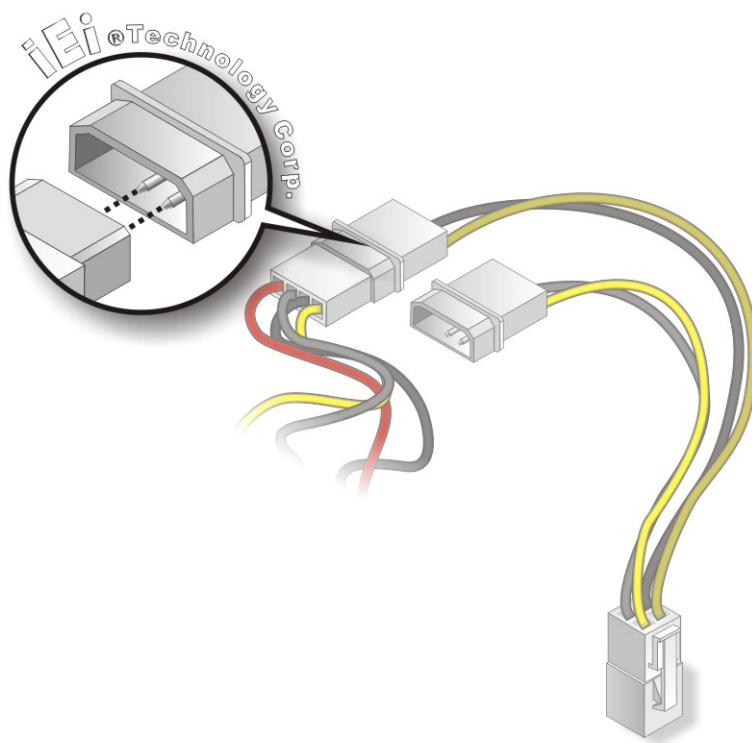

Figure 4-8: Connect Power Cable to Power Supply
**Step 3: Connect Power Cable to Power Supply.** Connect one of the 4-pin (1x4) Molex type power cable connectors to an AT power supply. See Figure 4-8.